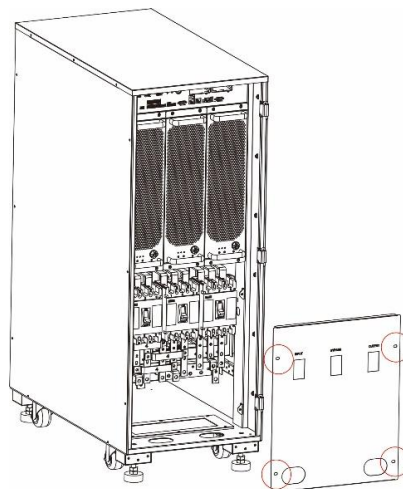

Fig. 3-8 Remove the cover of distribution unit (80/100/120/160/200kVA)
- Step 6: secure the components to the case with 8 × M6 and 4 × M12 screws, as shown in Fig. 3-8.